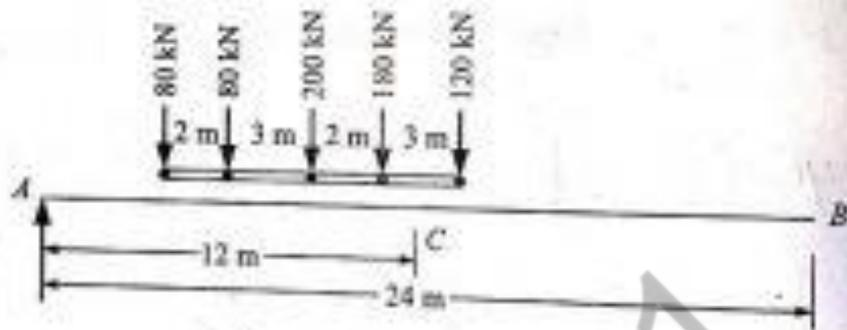

Figure 5.22(a) Example 5.6
**Solution** The ILD for shear force at centre of span is as shown in Figure 5.22(b). For maximum negative shear force the leading load should be on the section. The maximum ILD ordinate for shear force at C